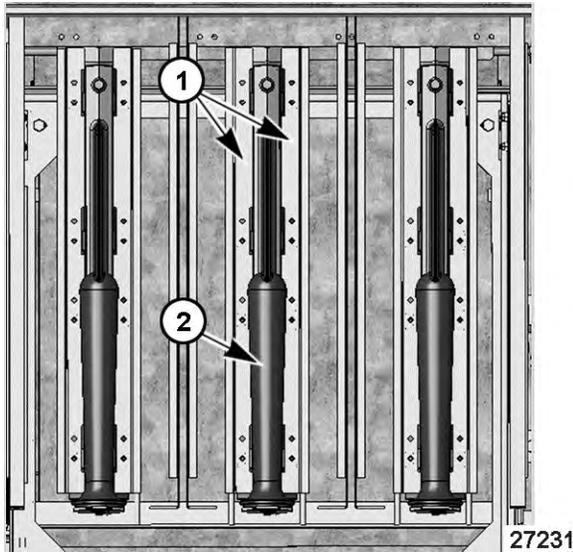

Fig. 21
15. Remove burner support rails [1] Fig. 21 from each side of burner [2] Fig. 21 being replaced.